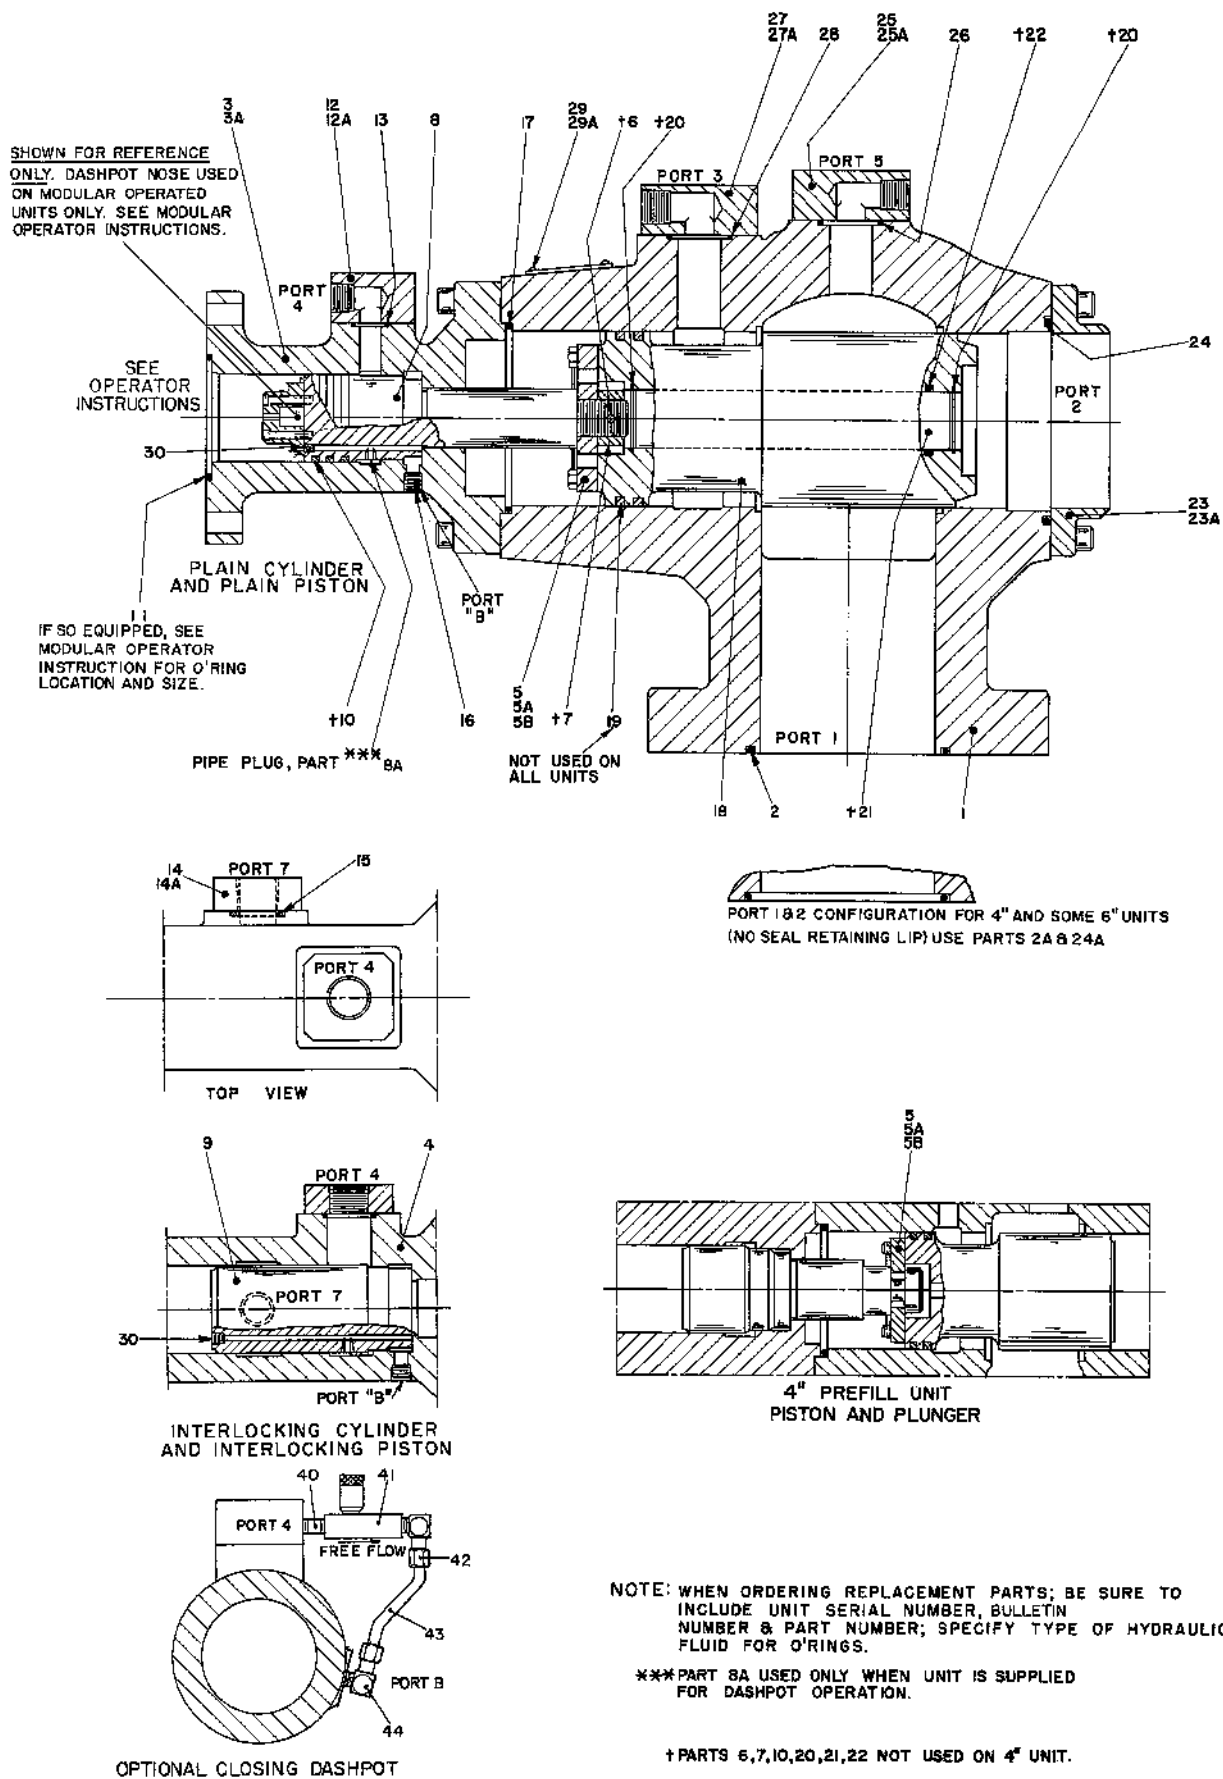

Figure 2. Parts Drawing, Size 100, 150 and 200 Basic Prefill Valves Without Operators DS-986304D (504058D).
Refer to Figure 2. The principle parts of these prefill valves are an operator (see separate bulletin); a control cylinder (3 or 4) and a control piston (8 or 9) of either the standard or interlocking type; the prefill valve body (1) and the prefill valve plunger (18).
Refer to figure 2. It will be advantageous to tag similar parts (particularly screws plugs and o'rings) during disassembly to be certain they don't become confused with similar parts and to ensure they will be returned to original location. Do not remove (locator) roll pins unless they are deformed or otherwise in need of replacement.
Refer to figure 2. Depending upon what part or parts are to be inspected, it may not be necessary to completely take apart all assemblies or disconnect piping.